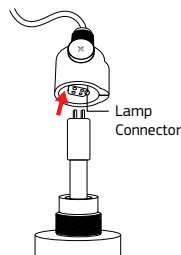

Fig. 8
9. Remove the safety cap from the aluminium nut, if the nut is inadvertently loosened during this process, retighten the nut. Insert the spring into the ballast by dropping it into the chamber. Slowly insert UV lamp into chamber through the hole of the aluminium nut end. Connect the lamp connector to the pins on the lamp. Do not let go of the lamp until the lamp is connected to the socket (see Fig. 8 & 9).